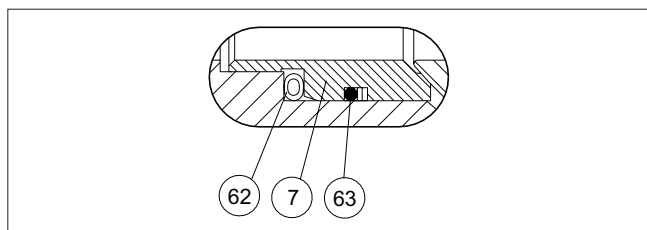

Fig. 25 S-seat
- Place the back seal (O-ring) (63) into the groove in the seat. See Figures 25, 26, and 27.